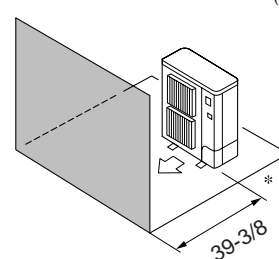

Fig. 2-5
- ④ Obstacles at front only (Fig. 2-5)